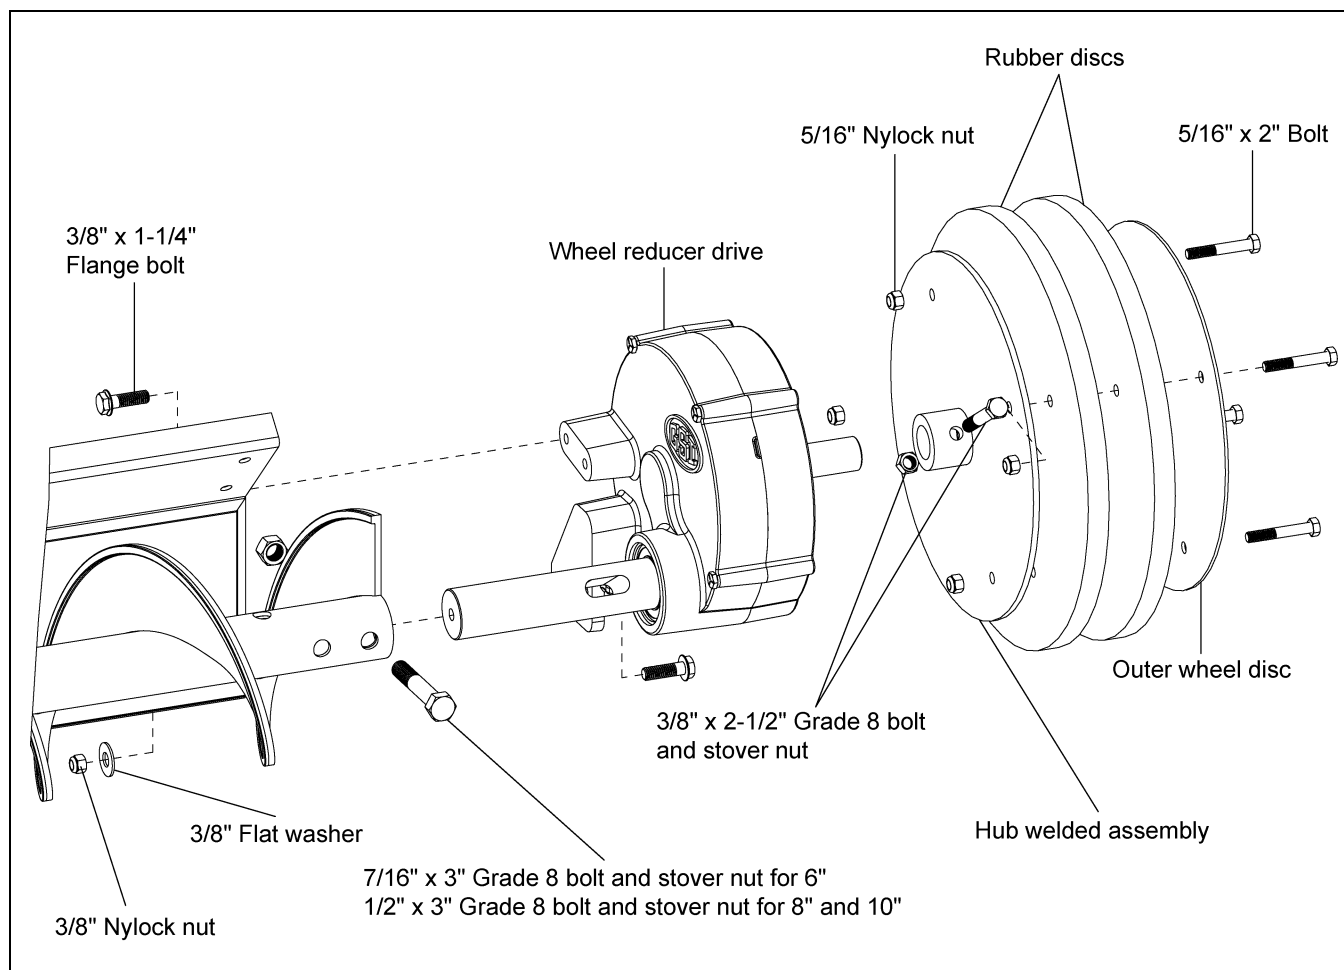

Figure 4AI
2. Mount the reducer to the back shield with two (2) $\frac{3}{8}$ " x 1- $\frac{1}{4}$ " serrated flange bolts, one flat washer and nylock nut.
4. Attach the rubber discs and outer wheel disc to the wheel hub welded assembly with four (4) $\frac{5}{16}$ " x 2" grade 2 bolts and nylock nuts. (See Figure 4AI.)